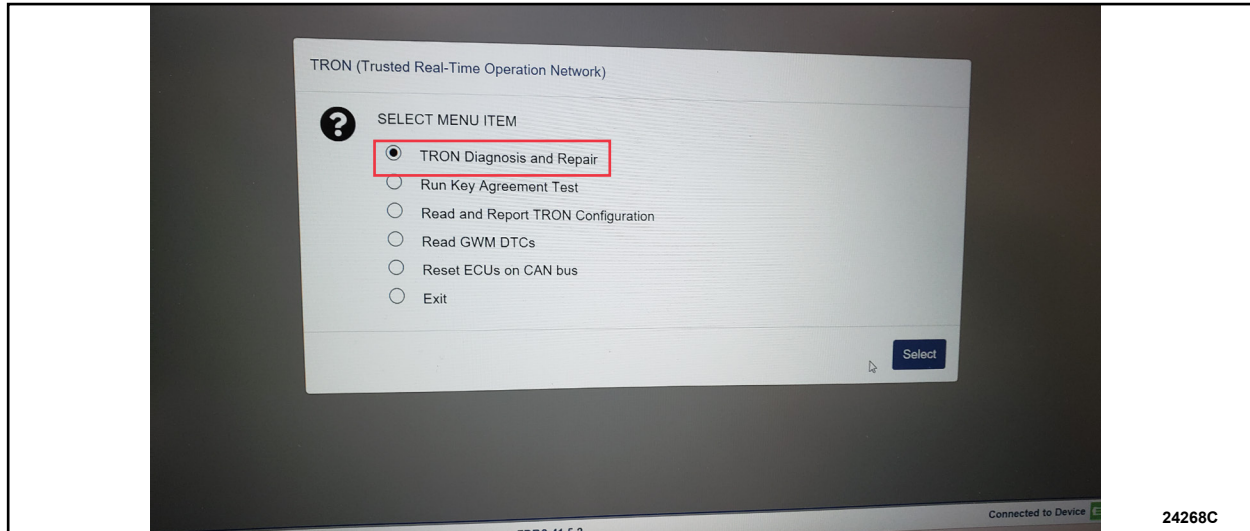

FIGURE 5
52. Select TRON Diagnosis and Repair from the menu items and then click **Select**. See Figure 5.